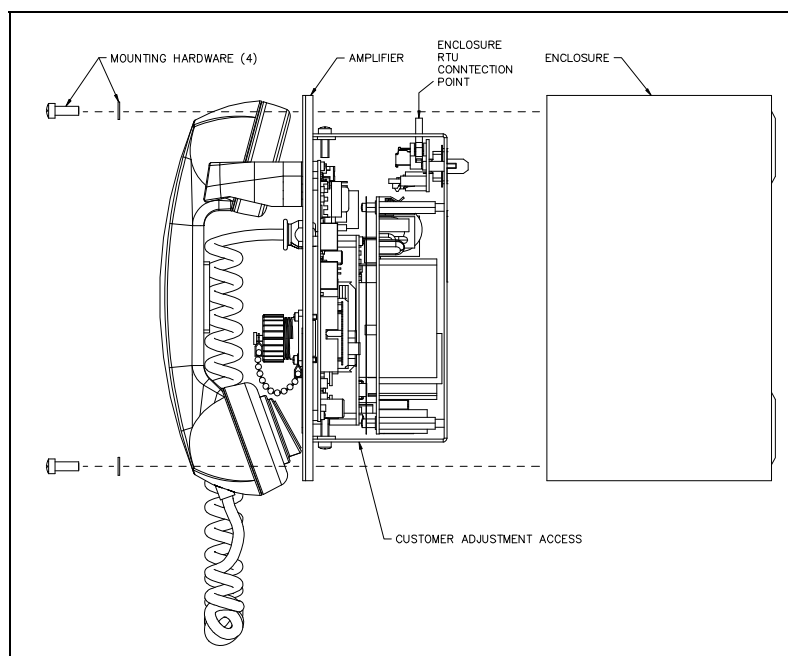

Figure 1. ICS AC-Powered Page/Party® Plug-in Amplifier Installation
2. Attach the amplifier to the enclosure with the hardware provided. See Figure 1.